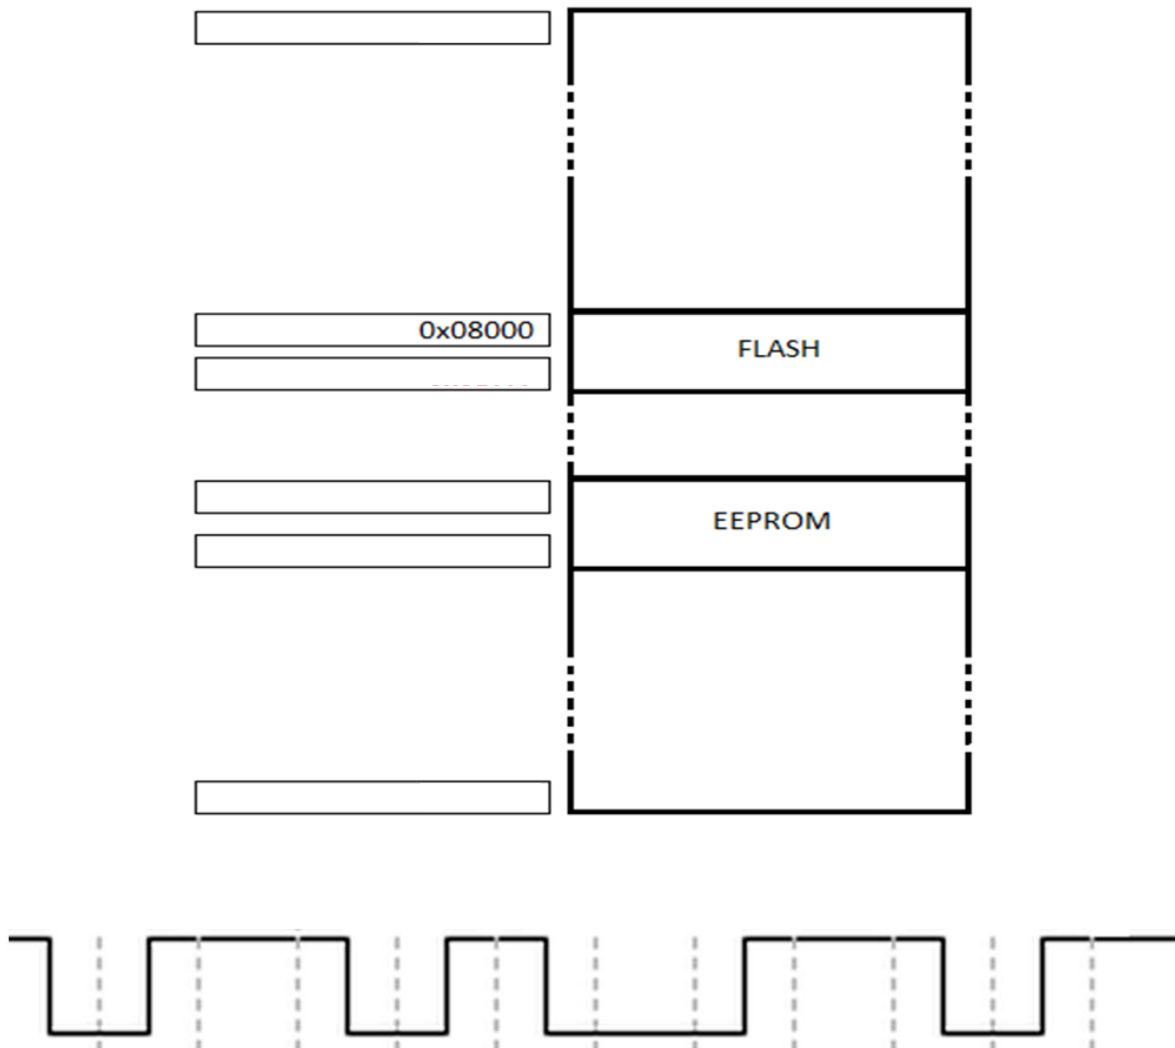

Figure 1 - Asynchronous transmission of 8 data bits
5. (2 marks) Figure 1 shows the timing diagram for an asynchronous RS232 data transmission with a data size of 8 bits. What is the value of the data byte being transmitted in **hex**?
6. (1 mark) What type of parity is being used in the data transmission in Figure 1 (assume no errors in the data)?
7. (1 mark) If the duration of each bit is  $10\mu\text{s}$  in Figure 1, what is the data rate of the transmission in **bit/s**?